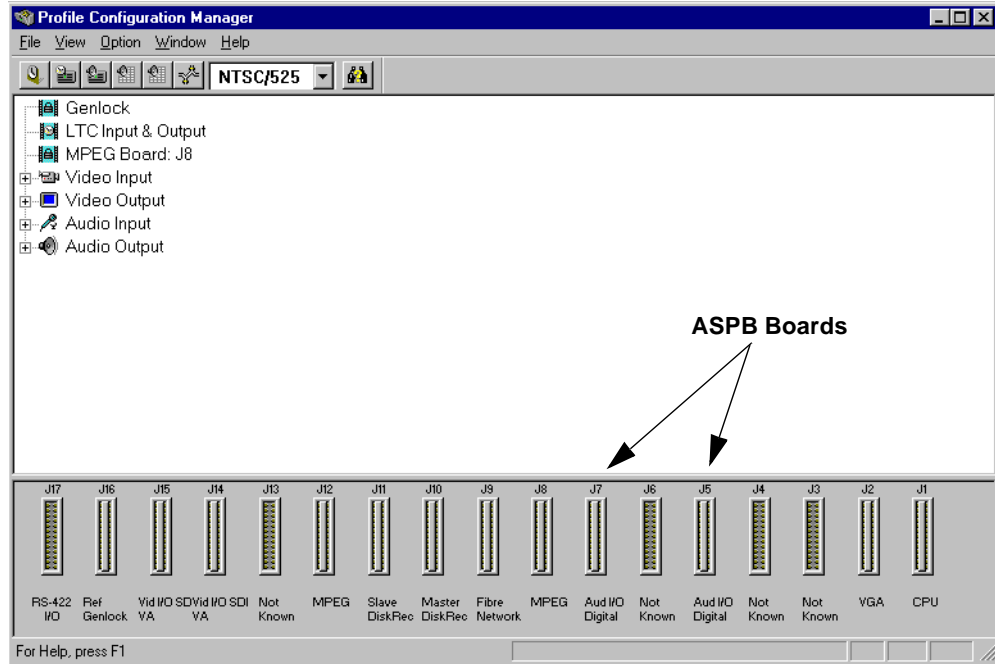

Figure 26. Configuration Manager showing two ASPB boards installed
3. Look at the bottom of the Configuration Manager window to ensure that *Aud I/O Digital* appears in the slots where you have ASPBs installed. (See Figure 26.)